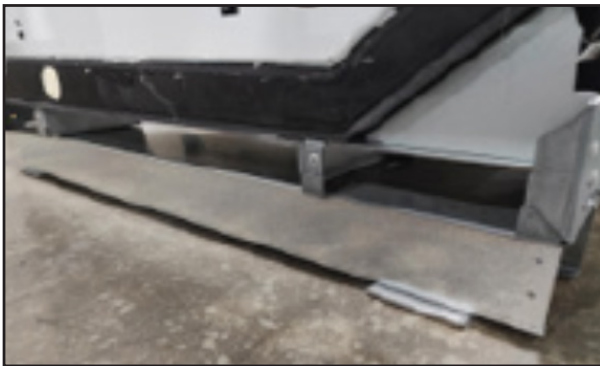

Fig. 46 Case over hat sections
6. Check the alignment at the front/rear and now place the case over the hat sections (Fig. 46).